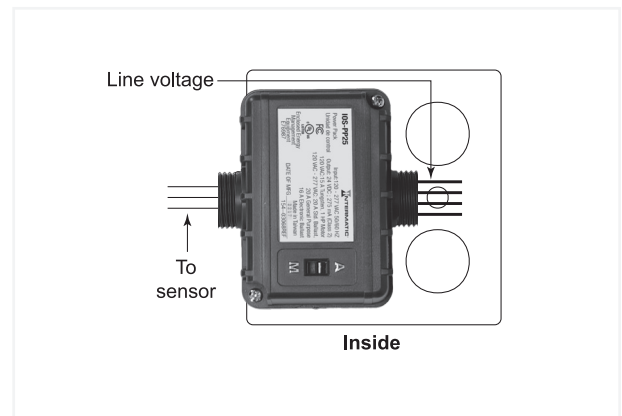

Figure 2
- 3.) Mount the power pack to a suitable junction box by using the ½ in. threaded nipple, washer, and locking nut as shown in Figures 2 & 3.